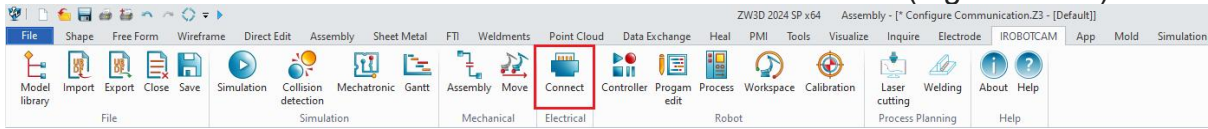

Figure 12-10: Connect button
- Click on the "Connect" button in the iRobotCAM column. (Figure 12-10)